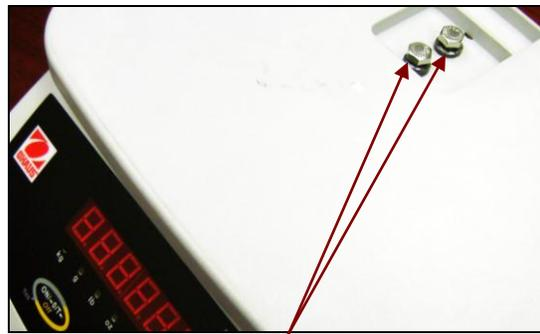

Figure 3-1. Bolts and washers securing Pan Support to Top Housing.
4. Remove the eight screws holding the Housing in place. (See Figure 3-1.) **Note:** six of the screws are long; the two that secure the front of the scale are short.